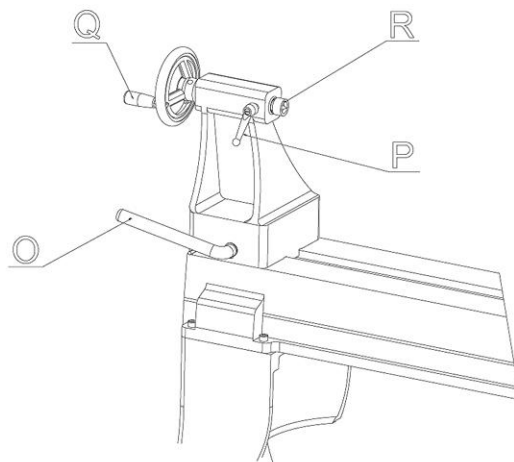

Fig 8.
- Tailstock Lock Handle:** (O, Fig. 8) Locks the tailstock in position. Unlock handle to position the tool rest in any location along lathe bed. Tighten handle when properly positioned.
- Tailstock Quill Lock Handle:** (P, Fig. 8) Locks the tailstock quill in position. Unlock handle to position the quill. Tighten handle when properly positioned.
- Tailstock Quill Handwheel:** (Q, Fig. 8) Turn the handwheel to position the quill. The tailstock quill lock handle must be loose to position quill.
- Tailstock Live Center:** (R, Fig. 8) Used for turning between centers. Quill taper is MT-2. Remove live center by retracting the quill until live center loosens. Remove, or add different tips to the live center by inserting the provided rod through.